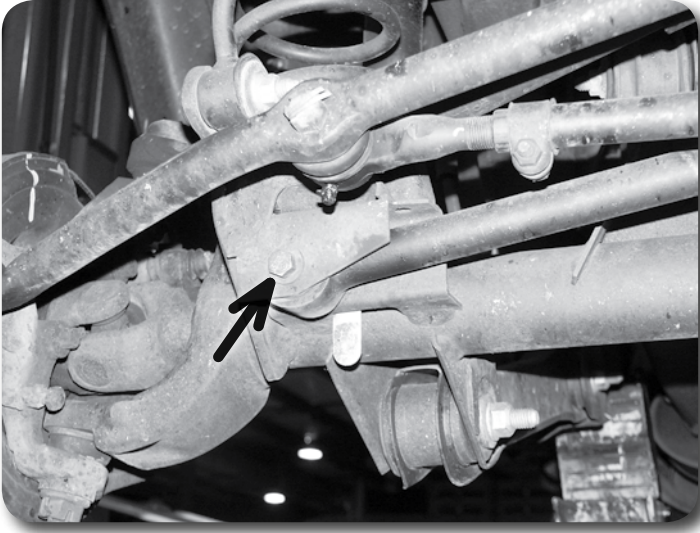

Figure 2
4. Remove the bolt mounting the front track bar to the passenger's side of the axle **Figure 2**. Save track bar bolt and nut tab. Allow the track bar to hang free.